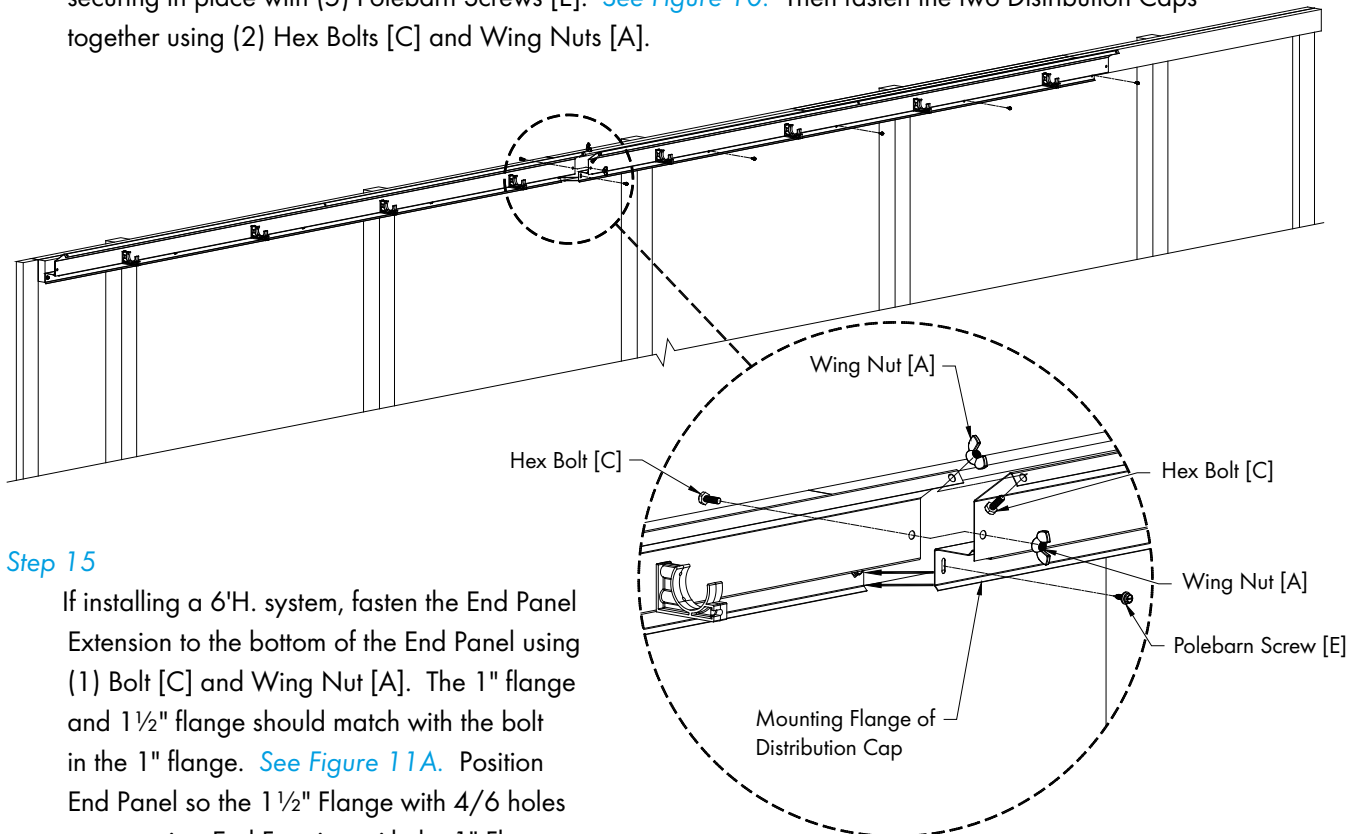

Figure 10
Install the remaining Distribution Cap by butting the Mounting Flange of the next one up to the previous one, with the Splash Guard overlapping the previous one. Make sure Distribution Cap is level and securing in place with (5) Polebarn Screws [E]. See Figure 10. Then fasten the two Distribution Caps together using (2) Hex Bolts [C] and Wing Nuts [A].